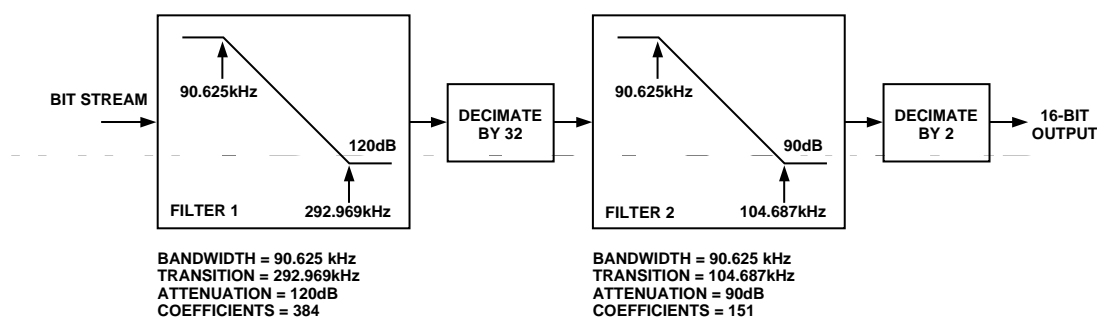

Figure 1. Digital Filter (Consists of 2 FIR Filters). This filter is implemented on the AD7722.
**TERMINOLOGY (IDEAL FIR FILTER USED WITH AD7720 [FIGURE 1])****Integral Nonlinearity**